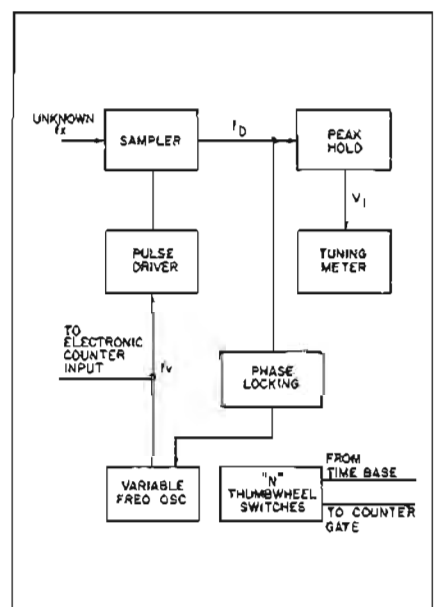

Figure 9. Frequency measurement with HP 5257A Transfer Oscillator using new transfer oscillator principle; counter measures sampling frequency of sampler.
The 5257A operates in a manner analogous to a stroboscope which uses a flashing lamp for measuring vibrational or rotary speeds. That is, if the 5257A variable frequency oscillator output frequency (Figure 9) is set to any sub-harmonic (N) of the unknown input frequency f_x , then V_1 will be a dc voltage (otherwise it's ac) because the input waveform will be sampled at the same point each time the sampler is gated open. Thus, if we manually tune the VFO until $f_0 = 0$ (indicated by tuning meter) and measure f_v with an electronic counter, the counter reading will be the frequency of some subharmonic of f_x . The frequency of f_x can then be determined by multiplying the counter reading by the harmonic number N . Dialing the number N into the thumbwheel switches on the 5257A performs this multiplication by extending the counter gate time by a factor of N . Since there is no offset frequency to add or subtract from the reading,